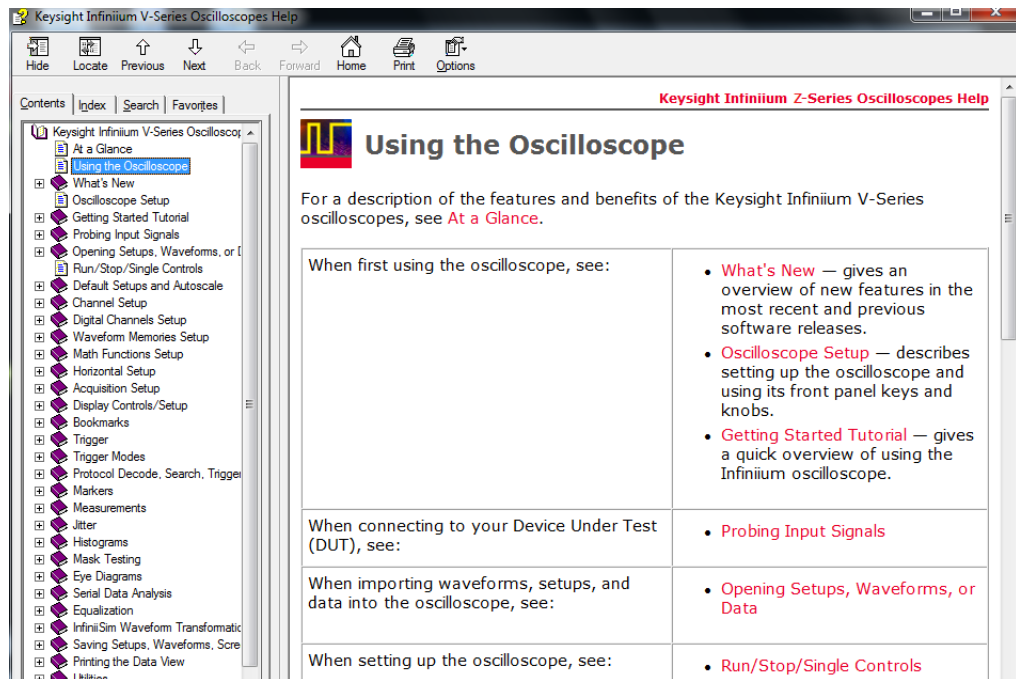

Figure 22 Online Help home page
- Choose **Help > Contents...** from the main menu to open the online help home page (**Figure 22**).